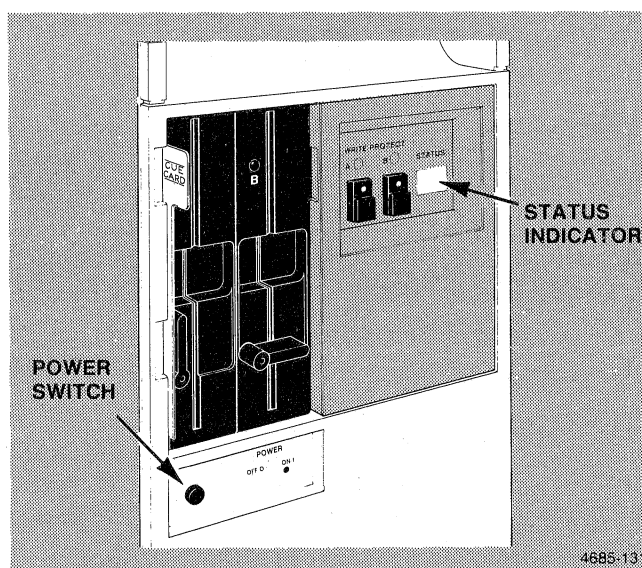

Figure 5-1. Turning on the 4170.
1. If the 4170 and the terminal are not already on, press the power button on the 4170 (Figure 5-1) and on the terminal. (When you turn on the 4170, it tests certain parts of its circuitry. When this self-test is complete, the 4170's bell rings once and the STATUS display on the front panel changes from "FF" to "00".)